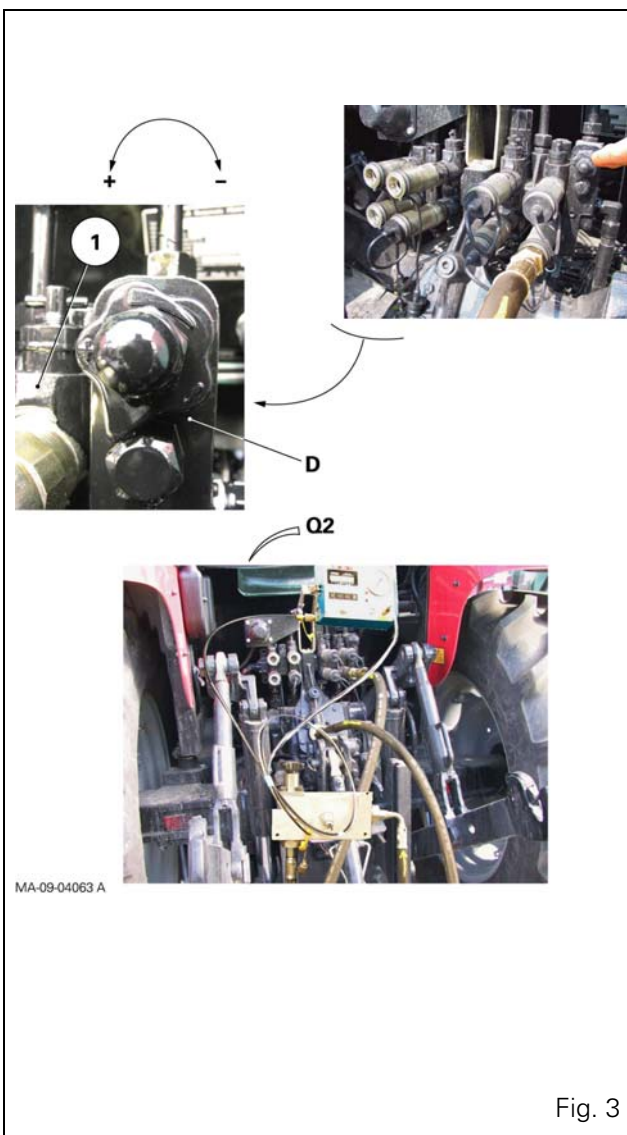

Fig. 3
- Connect a flowmeter to a quick-disconnect coupling on auxiliary spool valve no.1 located by flow divider "D" (Fig. 3).
- Check the flow rate of the divider by turning the adjusting knob shown (Fig. 3).